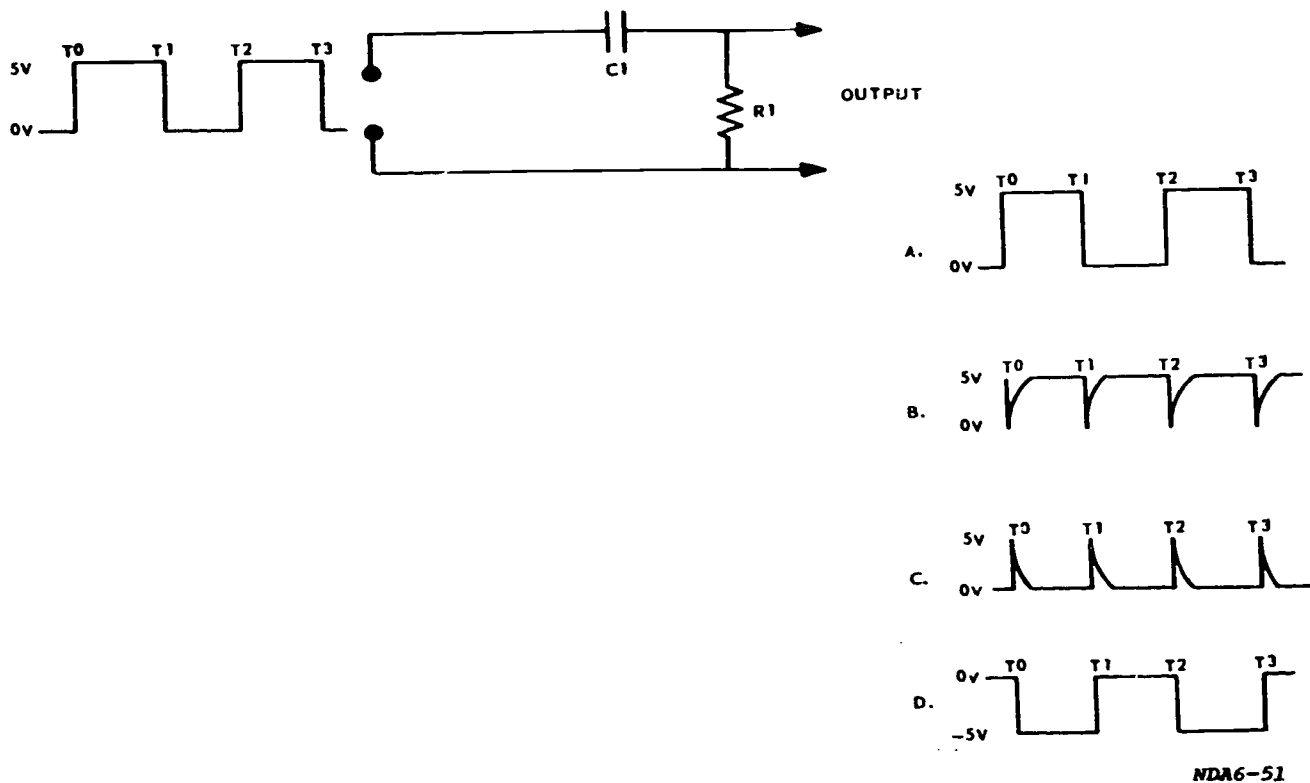

Figure 1-3. For objective 001, exercise 1.
1. In the following circuit, C1 is shorted (fig. 1-3). Select the output of the circuit.